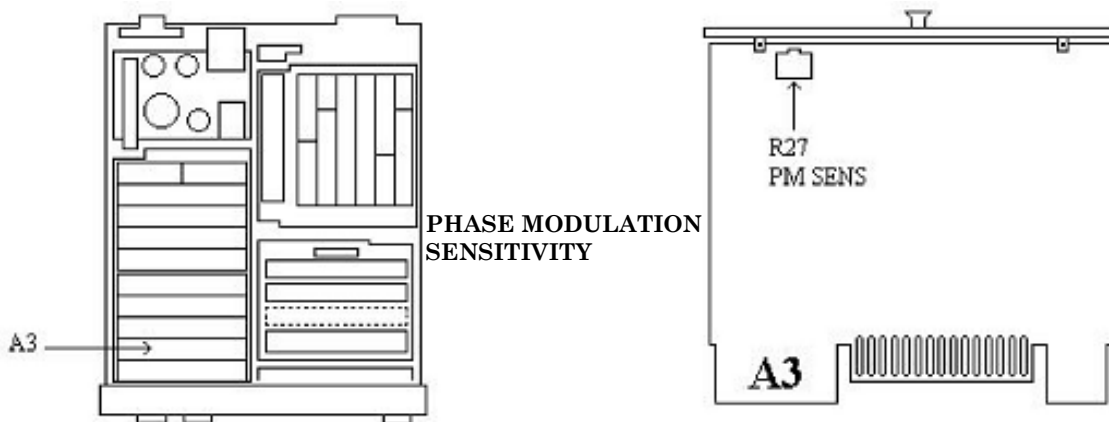

Figure 12. A3 board.
- (5) Press TI keys as listed in (a) through (c) below:
- (6) Adjust AM/FM test source **CARRIER FREQUENCY TUNE** control for a TI indication of approximately 100 MHz.
- (7) Press TI keys as listed in (a) and (b) below:
- (8) Adjust calibrator level for a TI indication of 100 kHz.
- (9) Press TI **ΦM** key.
- (10) Adjust A3R27 PM SENS (fig. 12) for a TI indication of  $100 \pm 0.2$  rad. (R)